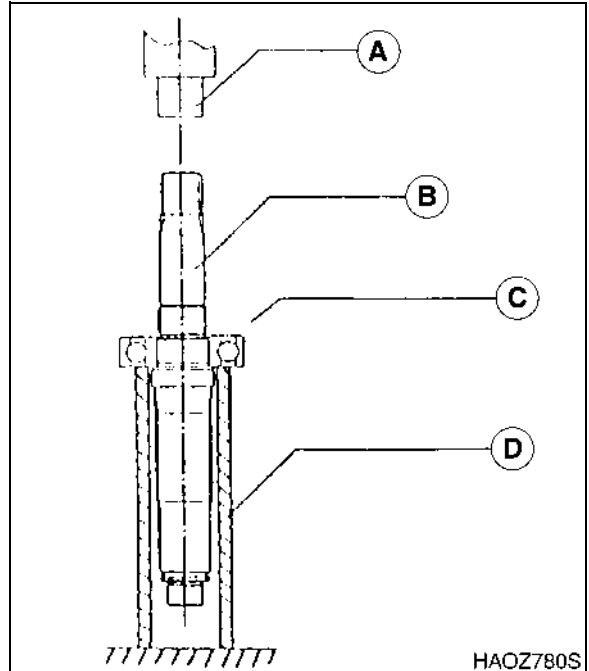

Figure 58
- Putting clamping metal fitting {II} (D) on the press work bench, and put shaft into it.
- Remove deep ditch ball bearing (C, Figure 58) (149) with holding down the shaft tip (B) parts by a press (A).